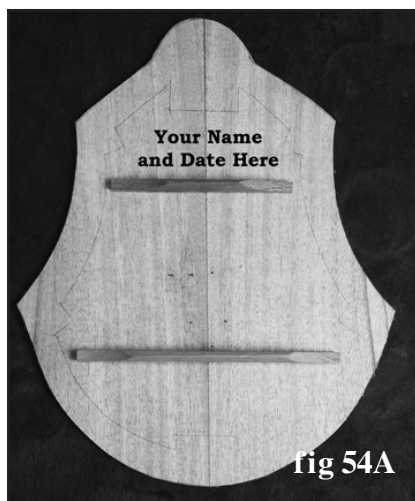

fig 54A
**54A.** We always recommend identifying the builder inside the instrument where you can see the inscription through the soundhole (fig 54A). You could make a nice label on your computer and print it out on parchment paper, or you can simply write your signature and date directly on the wood with a pen. Practice on a scrap piece of the same wood to make sure your writing will show up nicely.